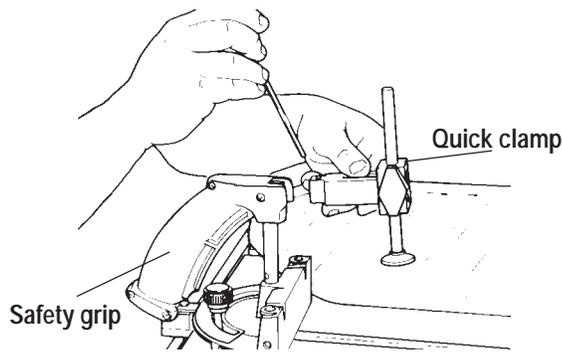

Figure C-84
- The miter gauge has two slots, so that you can attach a miter gauge extension. As shown in Figure C-84.